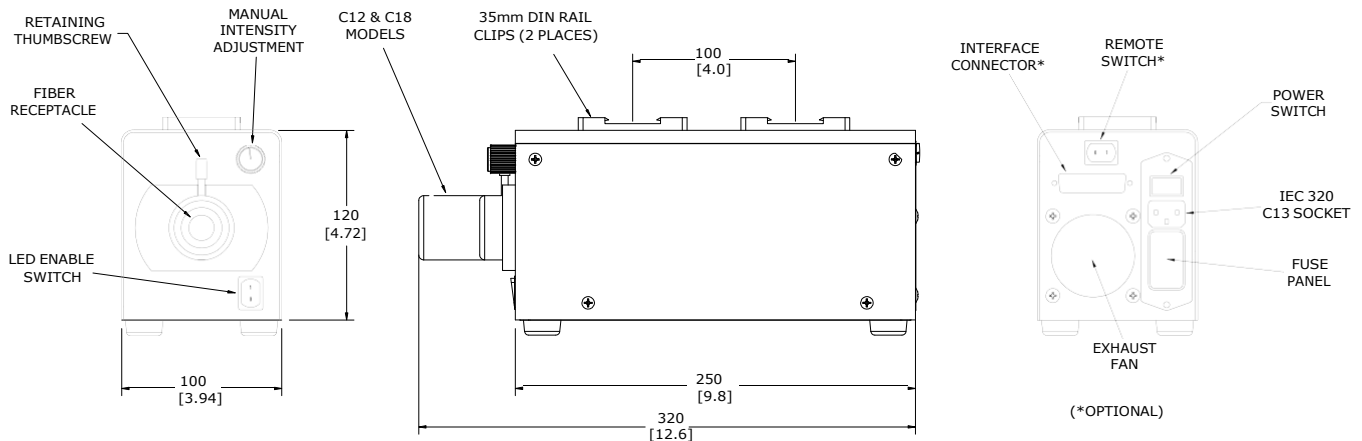

Figure 1: UBerLED 50/100 Lightsource Series
Figure 1 reveals the main features for this unit. On the front panel there is a fiber optic receptacle with a retaining thumbscrew that locks the fiberoptic accessories into the receptacle. In manual mode, the intensity of the LED is controlled by the manual intensity adjustment potentiometer, and power to the LED is controlled by the front panel LED enable switch. When the the LED Enable is in the "0" position, power to the LED is removed, however the internal electronics and cooling systems are still powered. If the unit is equipped with one of the remote interface controllers, the rear panel will have the appropriate interface connector installed, along with a remote switch for selecting between manual operating mode ("0") and remote operating mode ("1"). In the serial remote control mode the LED enable and intensity control are adjusted by digital commands through the rear panel connector. In this mode, the front panel potentiometer and the front panel LED Enable switch are disabled. Power to the entire unit is controlled via the power switch on the IEC320 power inlet module. The unit accepts any universal mains voltages using the appropriate IEC 320 cord set. The unit requires two (2) 5x20mm fuses for proper operation, which are located behind the fuse panel. The exhaust fan pulls air through the inlet at the base of the unit and exhausts the heated air out of the rear of the unit. Care must be taken to ensure that both the inlet and outlet air are not blocked to ensure proper cooling and long lifetime of the LED lamp.